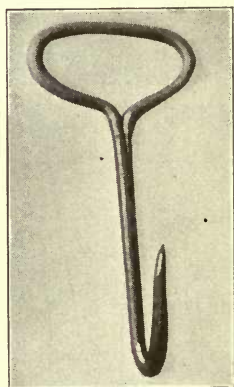

FIG. 44.
7. Bend the hook to the shape and dimensions shown in the drawing, and Fig. 44.